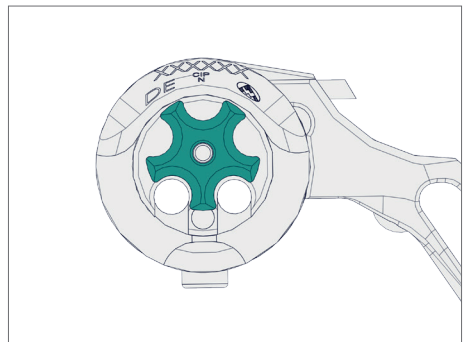

Fig. 16
- Turn the star screw back until the holes for the bolt guide are clear (Fig. 16).